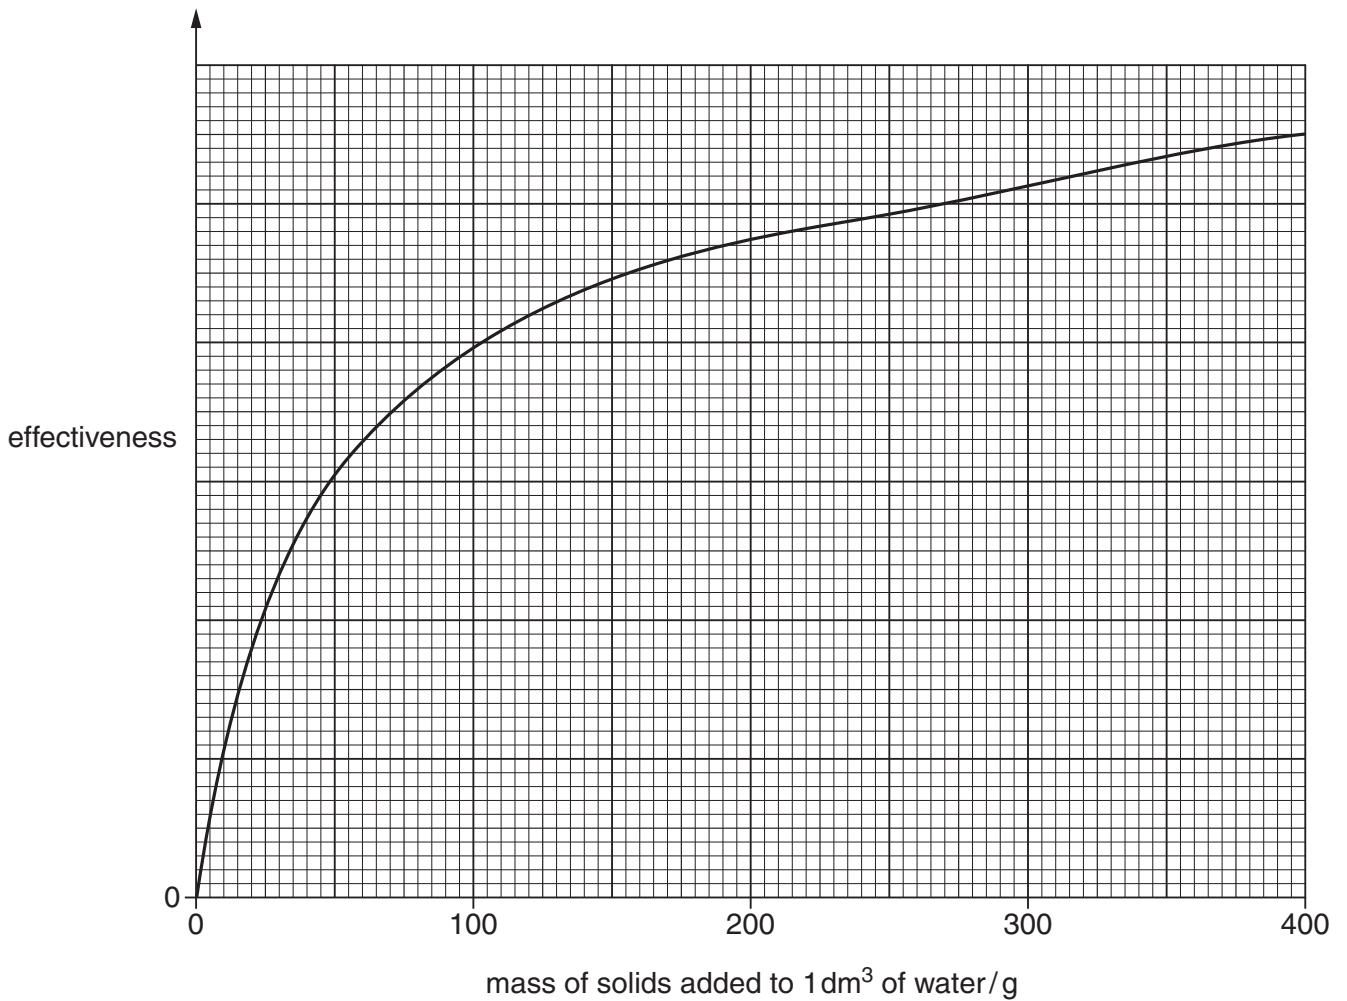

Fig. 3.1
- (iv) An article in a book showed a graph of the effectiveness of Bordeaux mixture at destroying fungi against varied amounts of the two solids, Fig. 3.1.
Use this comment to suggest why the curve in Fig. 3.1 has this shape.